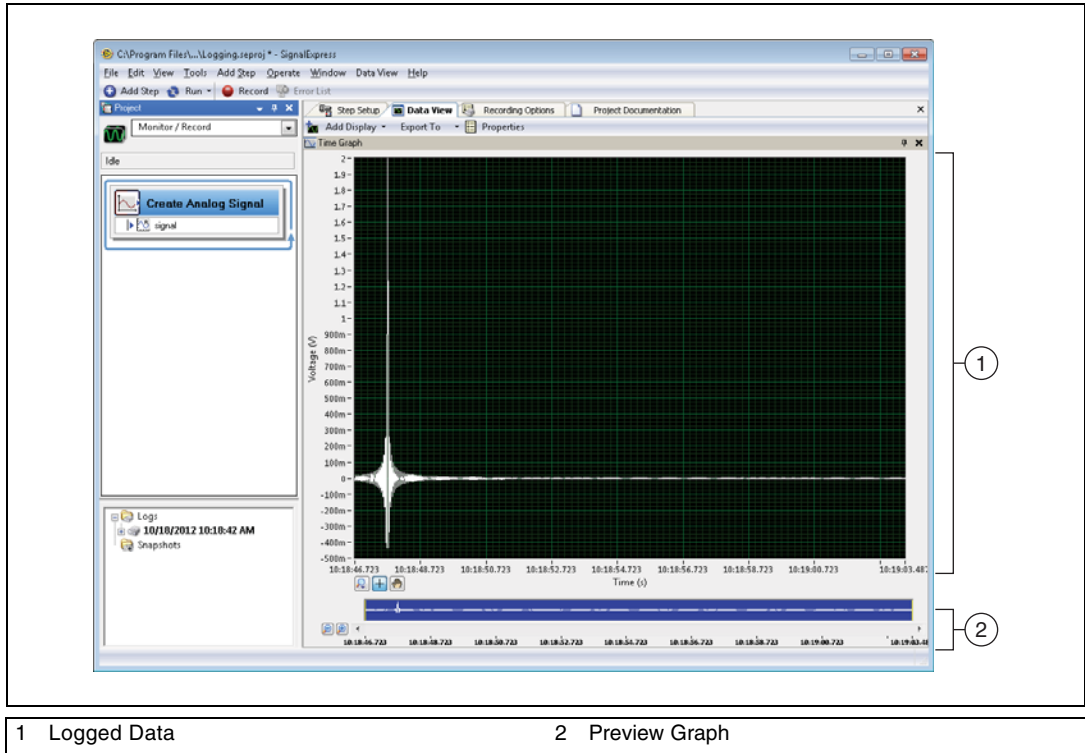

Figure 4-2. Logging.seproj
- The **Logged Data** window displays a list of all logged data in the current project. Select the data log you just recorded from the **Logged Data** window and drag it to the **Data View** tab. The **Data View** tab displays the logged data and a Preview Graph, as shown in Figure 4-2 with the context help closed. The signal displayed on the **Data View**
tab might differ from the signal displayed in Figure 4-2, depending on how long you recorded the signal.